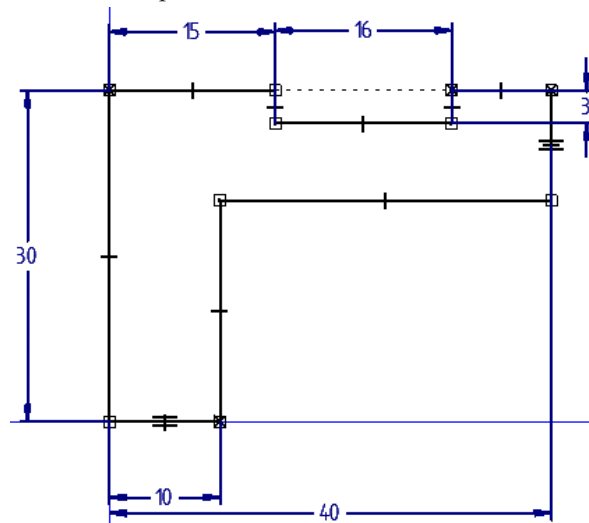

Figure 5-49 Dimensioned profile for the base feature
- Add the required relationships and dimensions to the sketch, as shown in Figure 5-49.